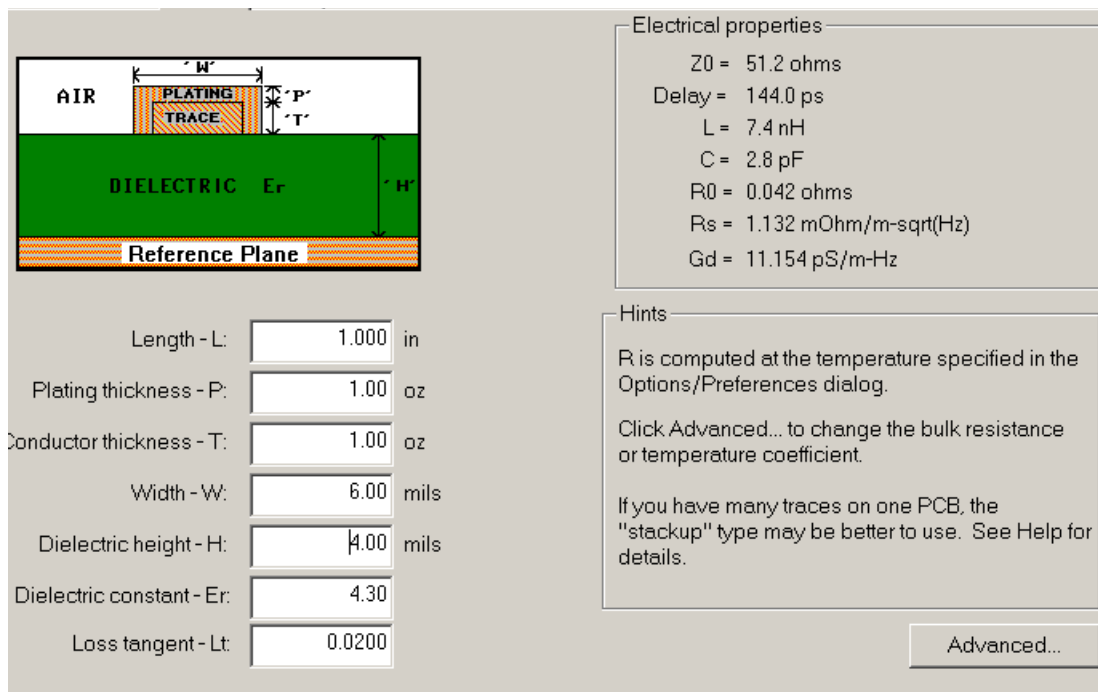

Figure 3: FR-4 Stackup for Microstrip
- The delays are based on the FR4 track stackup shown in Figure 3.
The FR-4 Track Stackup used for the simulations is shown in Figure 3.